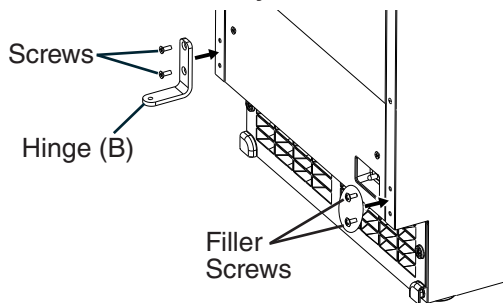

**Fig. 4**
- a) Contact your local distributor to purchase Kit HS-0229. The kit contains "hinge (A)-left."
- b) Remove the 2 screws securing the top panel, then lift it off. See Fig. 4.